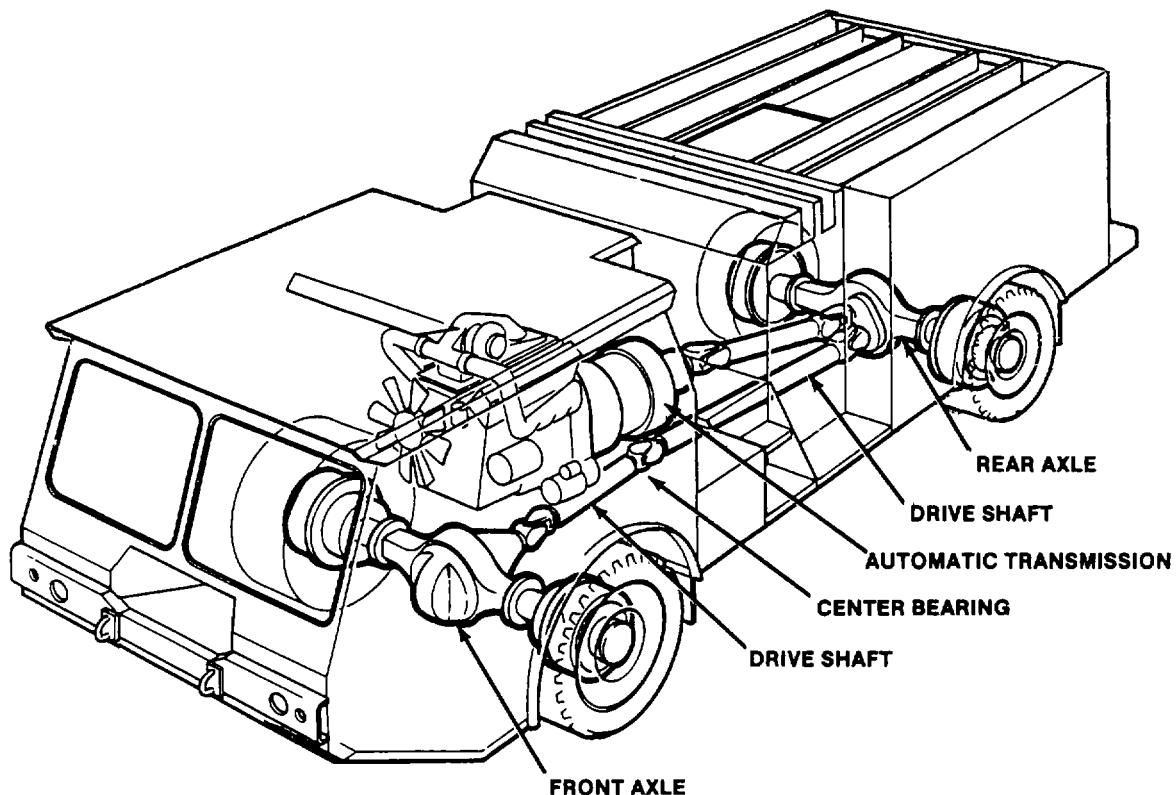

Figure 1-11. Transmission and Drive Train Components
(1) The truck is equipped with an automatic transmission that provides five-forward and one-reverse gear. . The transmission is connected to the engine via a torque converter that functions both as a fluid coupling and a torque multiplier. A torque converter lock-up clutch provides direct drive between engine and transmission when the vehicle obtains sufficient speed. This lock-up automatically disengages when the speed drops to the downshift limit of the gear range in which the vehicle is traveling. The transmission contains four sets of planetary gears and six hydraulically activated clutch packs. Engagement of the clutches and gears is controlled by means of the gear selector control in the cab and an automatic, governor-controlled shift mechanism in the transmission.
(2) The drive train from the transmission to the wheels consists of two drive shafts, and the rear and front axles, (see fig. 1-11). The rear axle is provided with a power divider gearing and clutch, controlled by the driver, for selection of either 2or 4-wheel drive.
(3) The drive shaft between the front and rear axle is a two-part unit supported by a center bearing. The front and rear axles are both equipped with single reduction, controlled traction (differential lock) differentials to ensure positive traction on all four wheels. The controlled traction mechanism is engaged and disengaged from the cab. The front axle is provided with ball and socket mounted wheel ends.
(4) The wheels consist of four single-unit rims mounted with tubeless, bias-ply tires suitable for both on and off-road use.